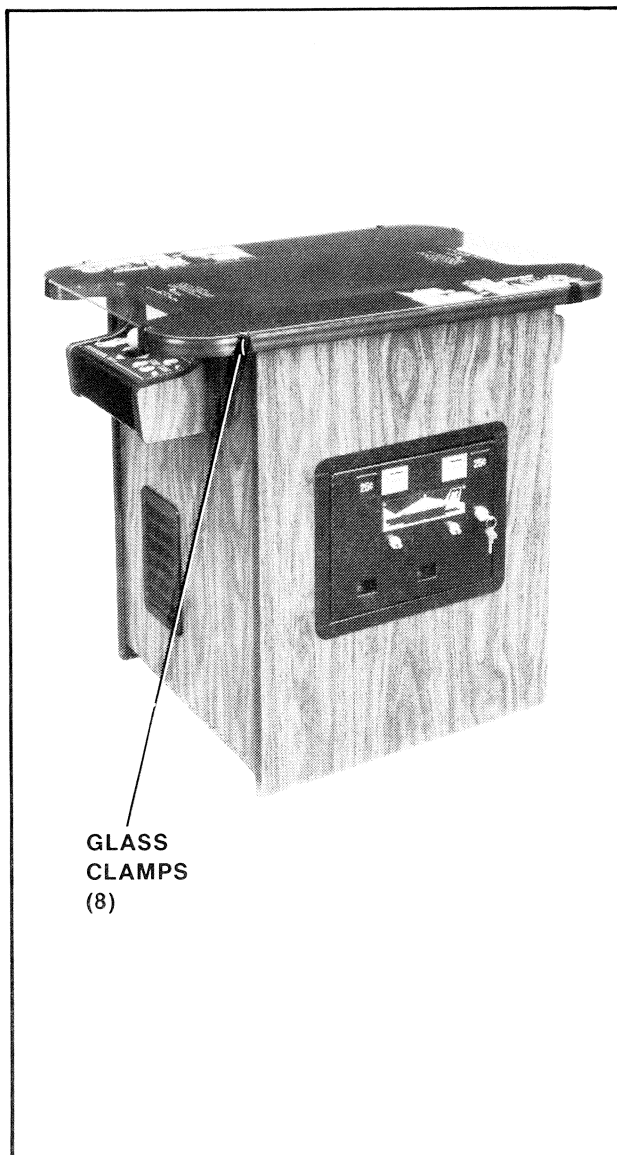

Figure 14 Removing top glass — Cocktail game
3. COCKTAIL TABLE MODEL: See Figure 14.